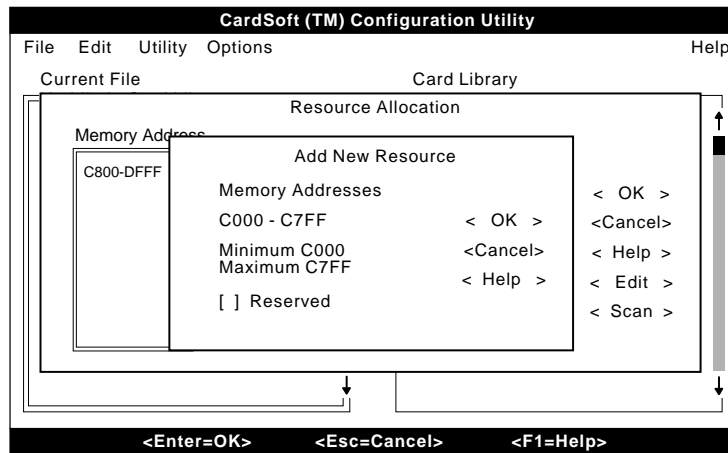

Figure B-8. Add A New Resource Screen
- 4 Click on **Insert** (or press **Alt + I**) to insert a resource before the item you highlighted in Step 1, or click on **Append** (or press **Alt + A**) to add a resource after the item you highlighted in Step 1. For example, if you highlighted 3E0-3EF in the IO Ports list box, and you want to add the range 3F0-3F7, select **Append**; if you want to add the range 3C0-3CF, click on **Insert**. The Add New Resource dialog box appears as shown in Figure B-8.